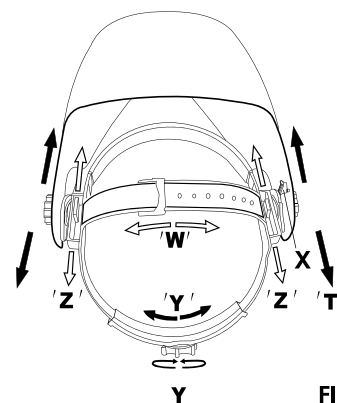

FIG. 1
1. The headgear can be tightened by turning the adjustment knob at the back of the harness. Rotate the knob clockwise and/or anti clockwise until a comfortable level is found. (See "Y" in Fig. 1)
2. The top strap on the headgear can be adjusted to ensure the correct balance and stability (See "W" in Fig. 1)
3. Adjusting the distance between the face and the lens by loosening both outside tension knobs and press inward to free from adjustment slots. Move forward or back to desired position and retighten. Both sides must be equally positioned for proper vision. (See "Z" and "T" in Fig. 1)
4. The 4 pins on the right side of the headgear are used to adjust the forward tilt of the helmet. To adjust, loosen the right outside tension adjustment knob then lift on the control arm tab and move it to the desired position and retighten tension adjustment knob. (See "X" in Fig. 1)